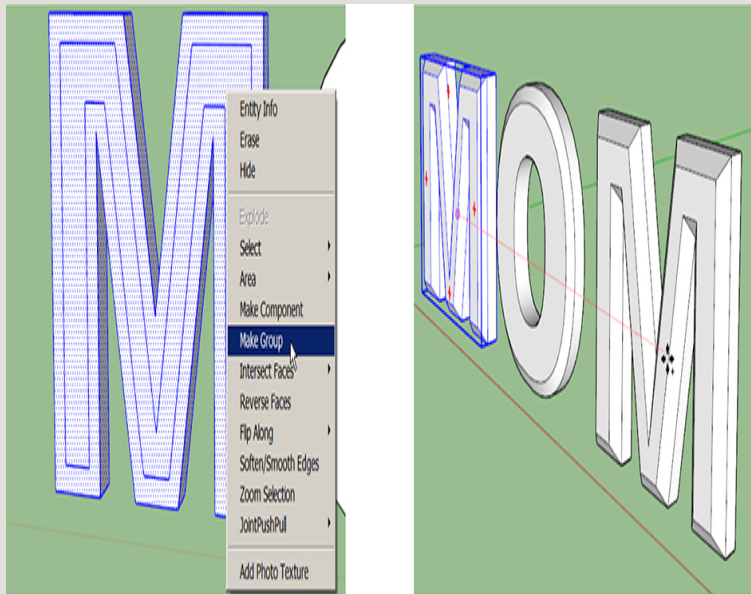

Figure 3-98 Group and copy the autofolded *M*. Delete the second *M*, and replace it with the copy.
6. Group and copy the *M*. Then delete the second *M*, and replace it with the first one. Group the *O* (Figure 3-98).